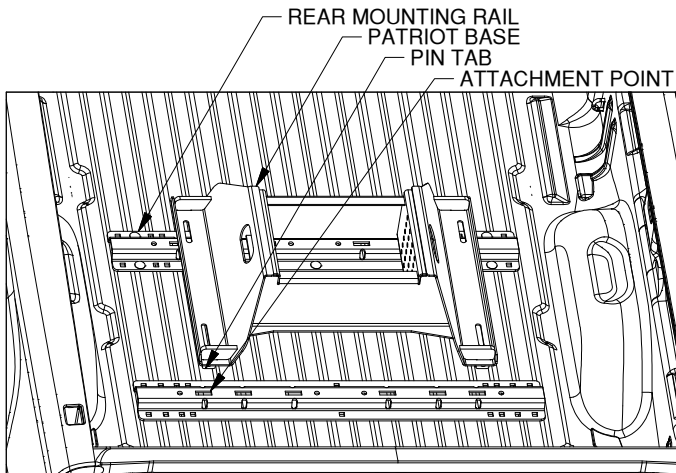

Figure C3: View into truckbed looking back at tailgate.
2. **Position the forward mounting rail.** For this step the base which will be used in the mounting rails is required. Place a mounting rail into the truck bed in front of the rear mounting rail. Place the base over the rail attachment points and carefully lower it until the pin tabs pass through the attachment points on the rear mounting rail. Attach the forward mounting rail to the forward mounting points on the base. The base should rest flat against the top of the rails. See figure C3. With the base still attached ensure that the forward rail is centered in the truck bed.